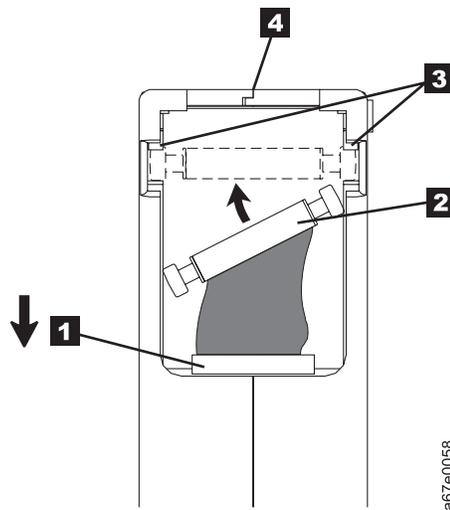

Figure 9. Placing the dislodged leader pin into the correct position. The cartridge door is open to show the leader pin.
- Inspect the rear of the cartridge (the part that you load first into the tape load compartment) and ensure that there are no gaps in the seam of the cartridge case (see **4** in Figure 9 on page 21). If there are gaps in the seam, the leader pin may be dislodged. Go to “Repositioning or reattaching a leader pin” on page 20.
1. Slide open the cartridge door (**1** in Figure 9) and locate the leader pin **2** (you may need to shake the cartridge gently to roll the pin toward the door).